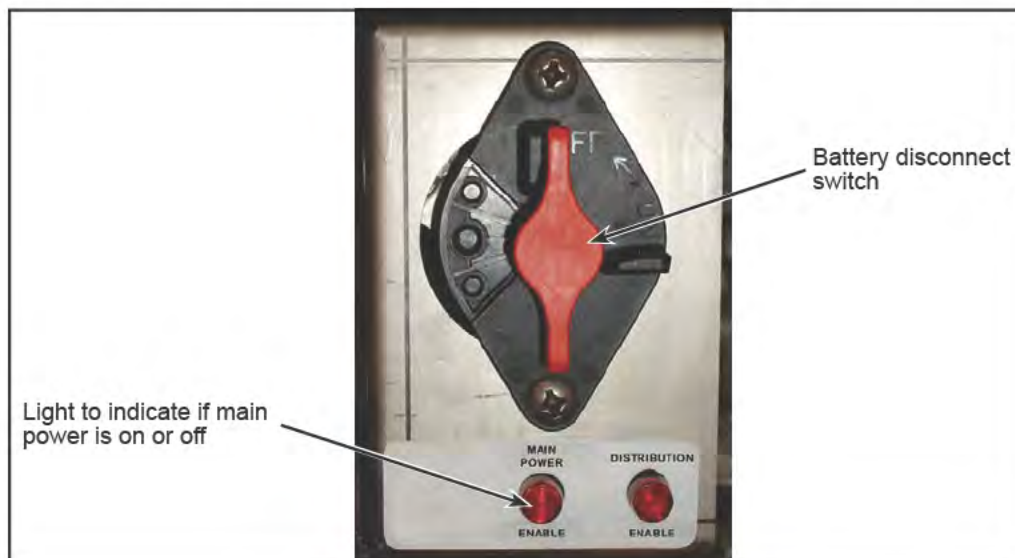

Figure 2 - Typical Battery Disconnect Switch Location
- 1.2. Set the battery disconnect switch in the battery compartment to the OFF position (see Figure 2).